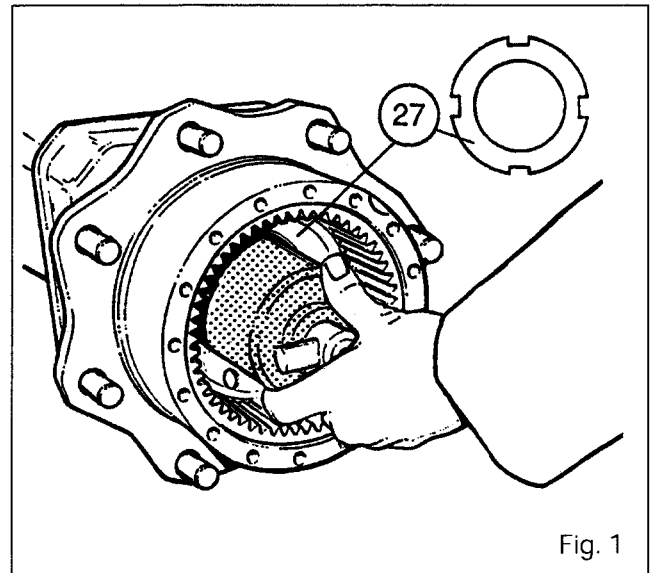
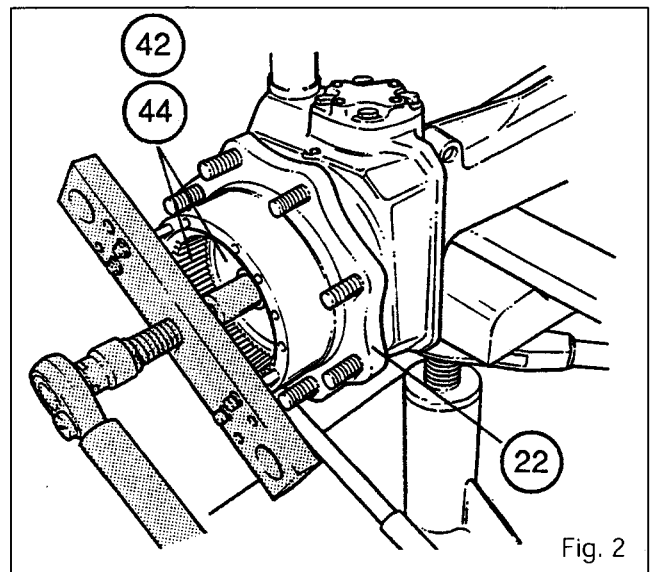

Fig. 1
Fig. 2
2. With the 4WD clutch engaged and the tractor stationary, lift both front wheels so that the hub (22) turns freely. Install stands..
5. Remove the bolts (33).
6. Remove and detach the planetary carrier with the thrust washer (30).
7. Remove the circlip (29) and the sun gear (28).
8. To avoid damaging the thread on the swivel housing (47), it is advisable to unlock nut (27) properly and to loosen it with socket MF 3376880M1 (axles AG 85 and AG 105) or 3378028M1 (axles AG 125 and AG 155) (Fig. 1). Fit a sling on the hub (22). Remove the hub along with the ring gear carrier (42) and ring gear (44) using extractor 3378038M1 (Fig. 2) and the sleeve suitable for the relevant category of axle (see Part I).
**Note:** Smear the cone and bolt on the extractor with graphite grease. Remove the retaining rings (24) and (26) from the ring gear carrier assembly. On the ring gear carrier assembly (42), separate the gear (44) from the ring gear carrier.
32. To avoid damaging the thread on the swivel housing **(47)**, it is advisable to unlock nut **(27)** properly and to loosen it with the socket (Fig. 1):
33. Fit a sling on the hub **(22)**. Remove the hub along with the ring gear carrier **(42)** and ring gear **(44)** using extractor 3378038M1 (Fig. 2) and the sleeve suitable for the relevant category of axle (see Part I).